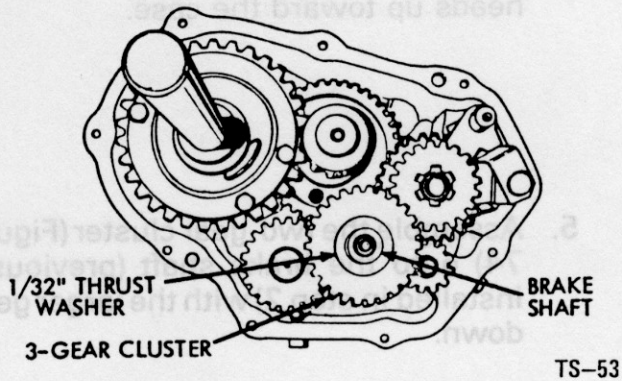

Figure 76 - Three Gear Cluster
11. Install the three-gear cluster (Figure 76) onto the brake shaft with the smallest gear down toward the spacer. Then place a $1/32$ " x $7/8$ " thrust washer on the brake shaft between the larger gear and the case.